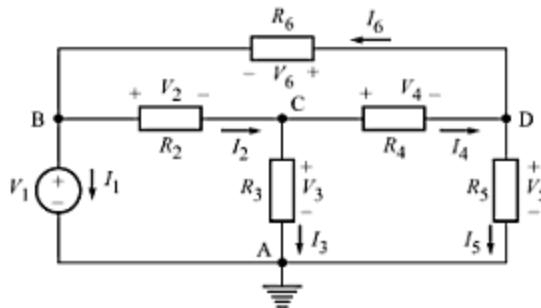

Fig. 4.15
Consider the network shown in Fig. 4.15. It has six branches. Arbitrary reference directions have been selected for all branch currents, and corresponding branch voltage is indicated with current entering the plus terminal. Select a set of branch voltages that satisfy KVL. Select two different sets of branch currents, each satisfying KCL. Show that both the sets of branch currents along with the set of branch voltages satisfy Eq. 4.10.
**Proof of Tellegen's Theorem:** We will again consider the circuit shown in Fig. 4.15 and note that the things that we have done for this network will lead to the same results in general. We will now make use of node-to-datum voltages and currents with double subscript to indicate direction. For example, for the branch 2, we will write